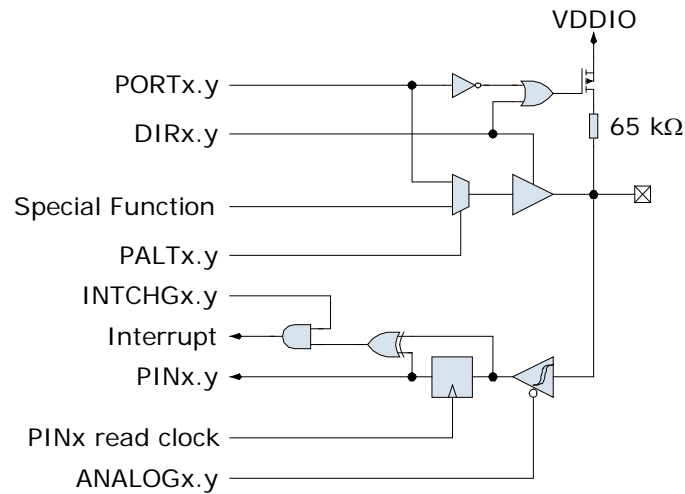

Figure 8 Port Pin Schematic
Figure 8 shows the GPIO logic. The DIR register bit determines whether the port pin acts as an output (1) or an input (0).